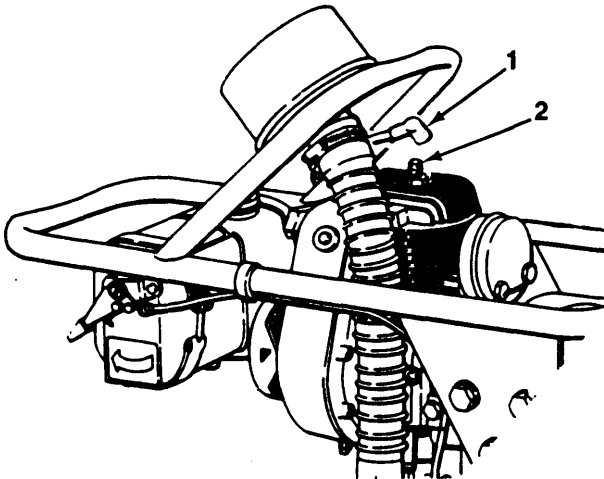

Figure 2-5. Disconnecting and Connecting Spark Plug.
- Refer to Figure 2-5, Disconnecting and Connecting Spark Plug.